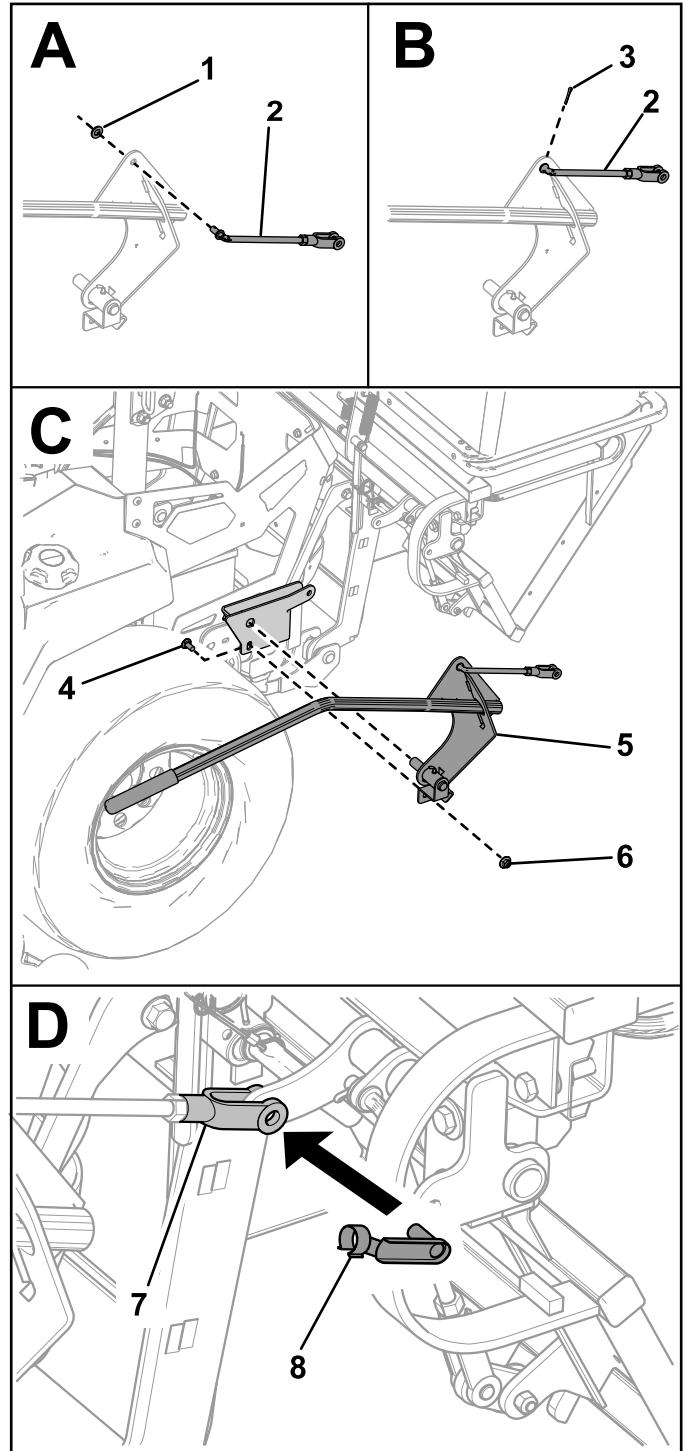

Figure 16
1. Insert the linkage into the handle assembly and install the washer (Figure 16).
2. Secure the linkage to the handle assembly using the cotter pin (Figure 16).
3. Secure the handle assembly to the pivot mount using the carriage bolt (3/8 x 7/8 inch) and locknut (3/8 inch) as shown in Figure 16.
4. Rotate the hopper-handle linkage up to the hopper assembly and secure it using the clevis-pin spring (Figure 16).